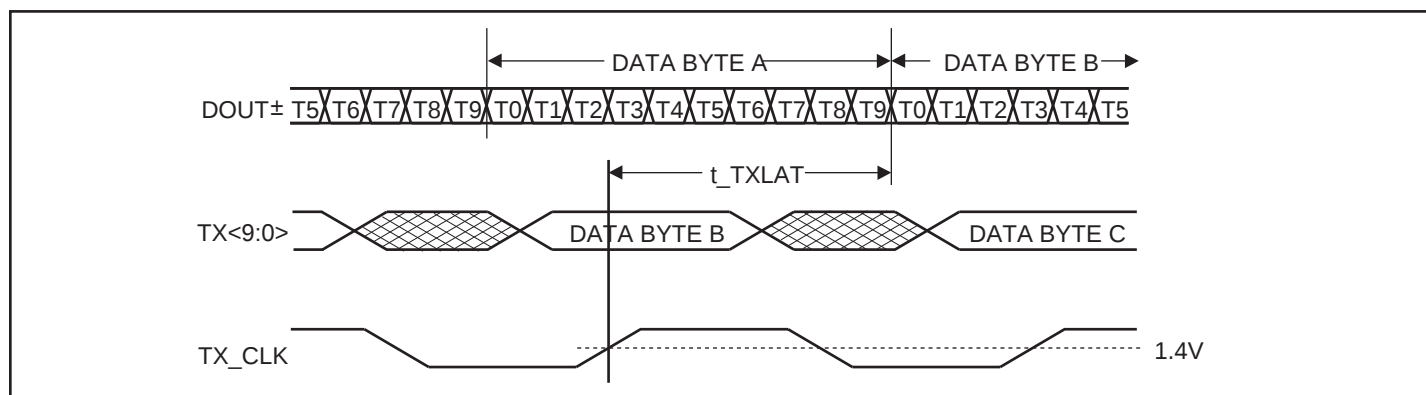

Figure 4. Transmitter Latency
- The transmitter latency, as shown in Figure 4, is defined as the time between the latching in of the parallel data word (as triggered by the rising edge of the transmit by clock, REFCLK) and the transmission of the first serial bit of that parallel word (defined by the rising edge of the first bit transmitted).